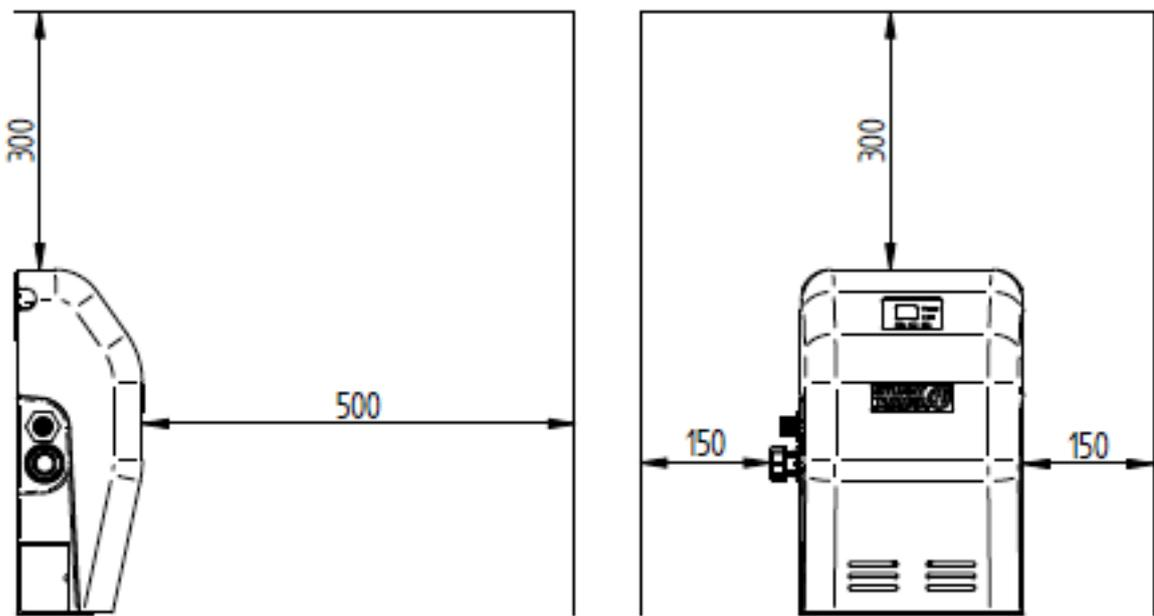

Fig. 2
2.12 **Access and minimum clearance requirements:** For emergencies and maintenance the Flowpress Mini must be easily accessible and have the minimum clearance around it as laid out in Fig. 2. Additional access to the front of the unit will be required to operate the keypad and view the display.